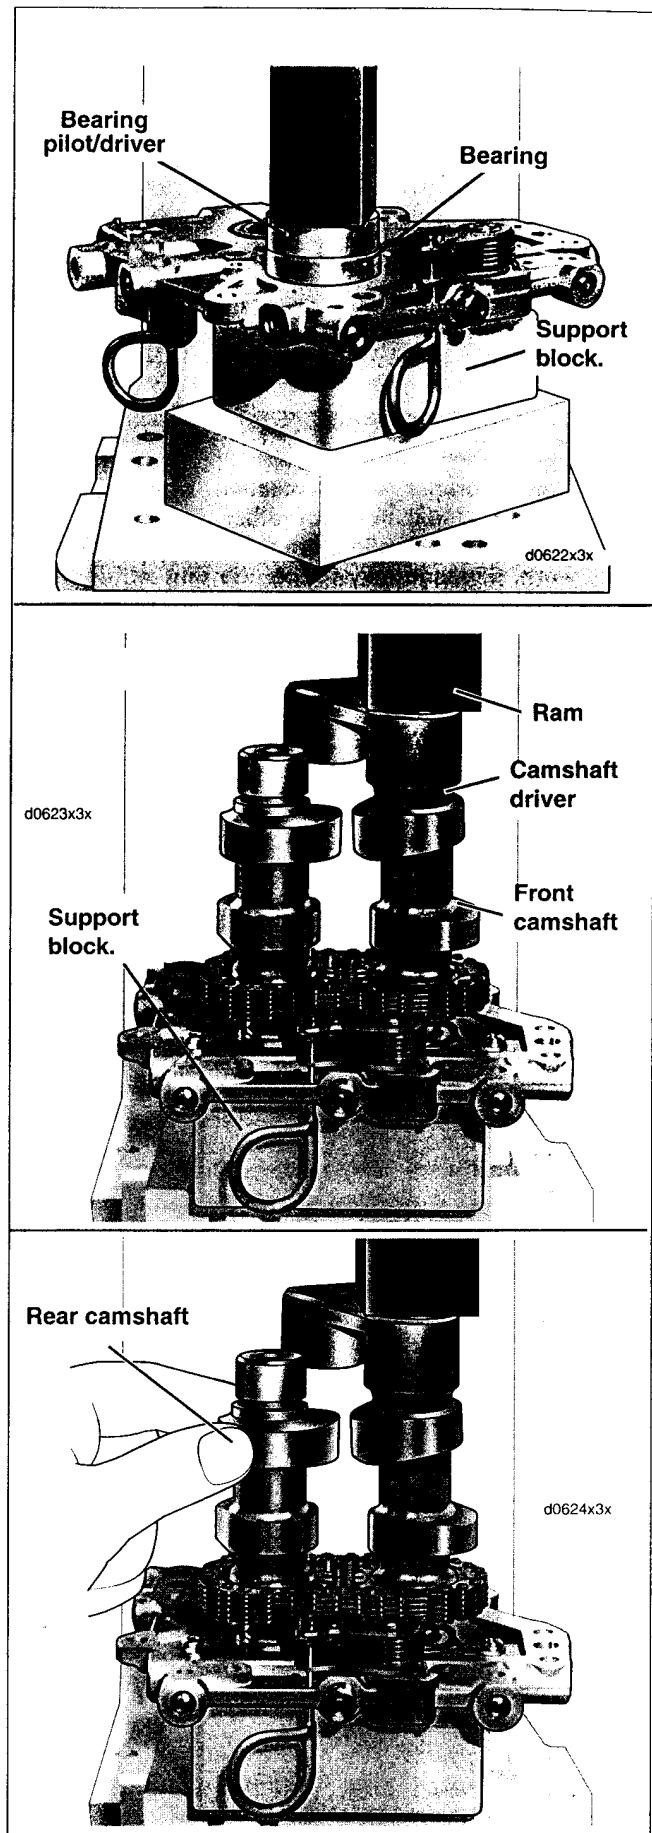

Figure 3-138. Install Cam Bearings/Camshafts
6. See top frame of Figure 3-138. Center bearing driver under ram of arbor press. Press on driver until bearing makes firm contact with counterbore in cam support plate. Repeat steps to install second bearing.
- See center frame of Figure 3-138. Center end of front camshaft under ram and slowly apply pressure to driver just to start front camshaft into bearing ID.
- See bottom frame of Figure 3-138. Slowly apply pressure to driver on front camshaft, while wiggling rear camshaft as necessary to guide inner race between bearing rollers.